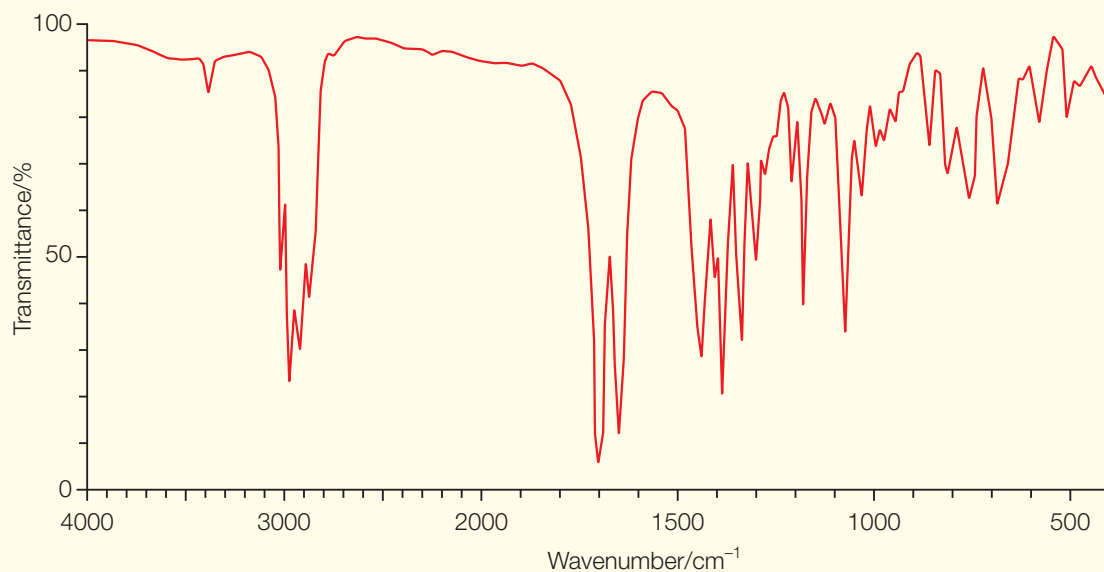

Figure 9.27 ▼
- 4 Refer to the IR spectrum in Figure 9.27 and the data sheet of characteristic IR absorptions in organic molecules from the Dynamic Learning Student website. The peak at 1650 cm^{-1} indicates the presence of $\text{C}=\text{C}$. What other parts of your answers to question 3 are confirmed by the spectrum?